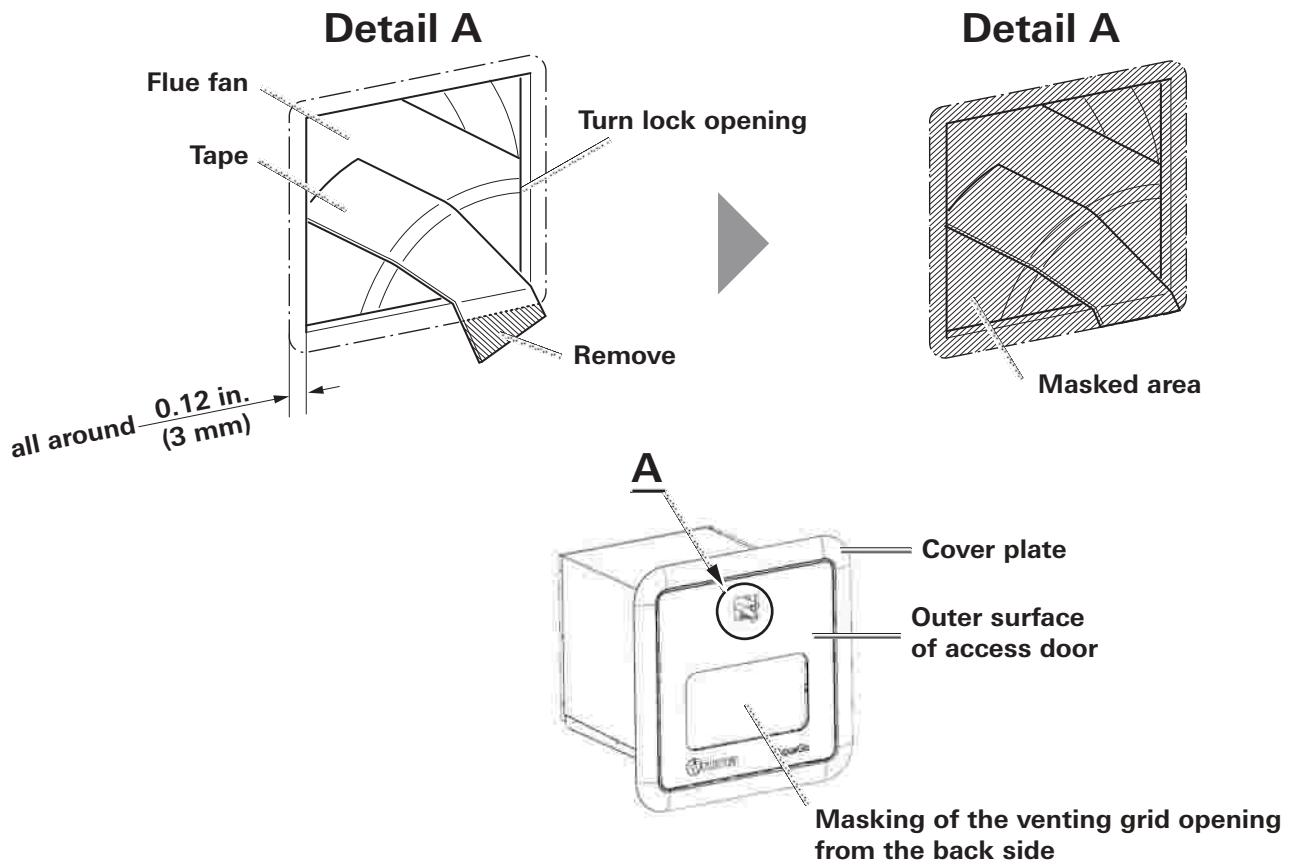

Fig. 37
The following parts (see Fig. 37) may be painted:
To remove the turn lock, depress the four (4) clips and remove it as shown in Fig. 37.